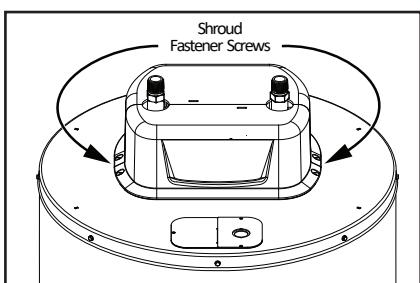

Figure 30 - Shroud fastener screw locations.
- 2** Using a 1/4" nut driver, locate and remove the four (4) screws securing the shroud cover to the top of the heater. Lift the shroud cover up and away from the top of the heater. See Figure 30.